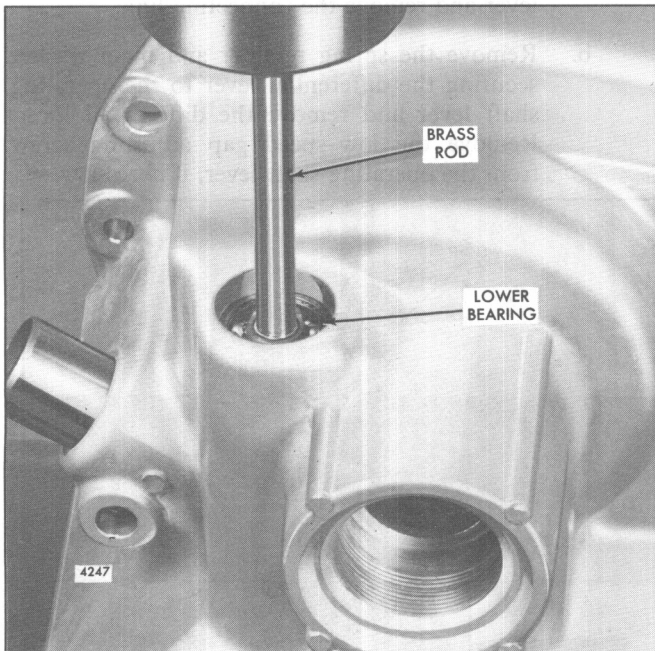

Fig. 15 – Removing Operating Shaft from Operating Shaft Lower Bearing
- f. Support the governor housing bottom side up on the bed of an arbor press, with the two dowel pins in the top of the housing between the two steel supports. Place a small brass rod on the end of the operating shaft and press the shaft out of the bearing (Fig. 15).